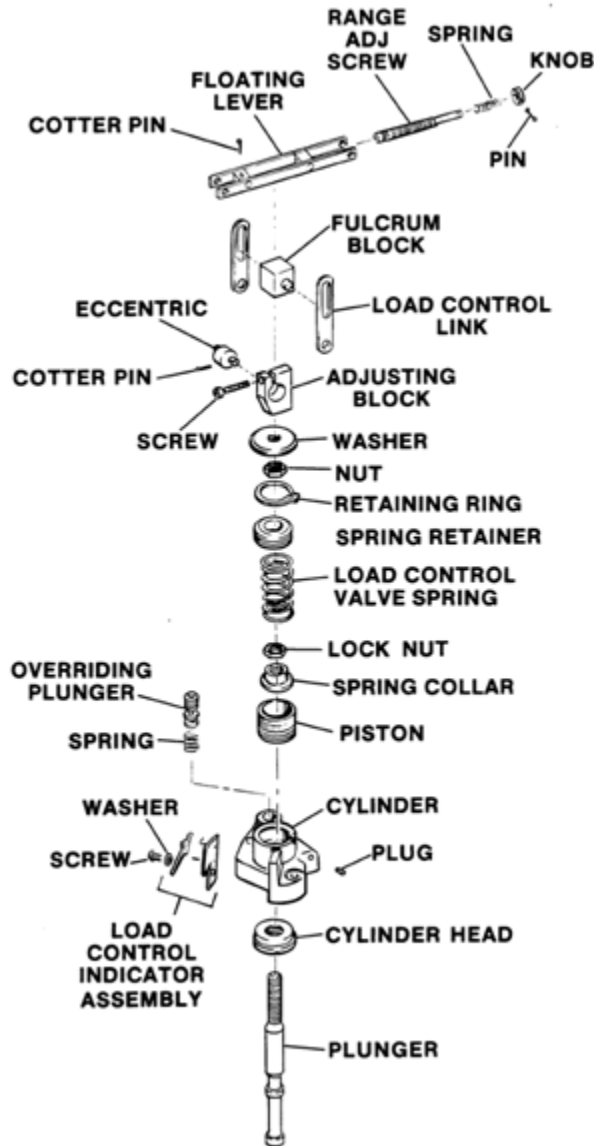

Figure 5-55. Load Control Pilot Valve Assembly
- Press the cylinder head into cylinder, (Figure 5-55).